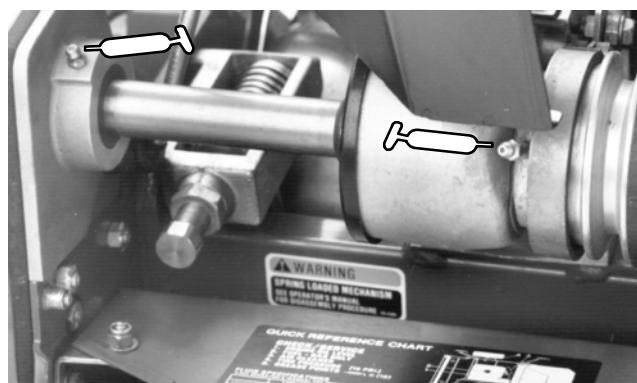

Figure 69
B. The clutch housing and bearing housing for the power shaft (Fig. 69).